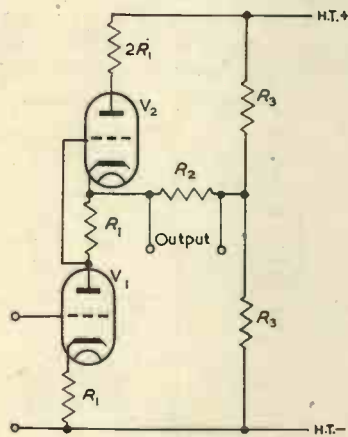

Fig. 21. Series balance circuit
Artzt51 has also described a series balance circuit, one form of which is shown in Fig. 21. Using equation (5) to represent valve performance, it is shown that compensation both for H.T. and L.T. variations may be obtained with similar valves with resistances as shown. The gain of the circuit is given as  $\mu R_2 / (R_a + 2R_2 + 2R_1)$  and when the load resistor  $R_2 = \infty$  the gain becomes  $\mu/2$ . In the latter case the gain is independent of  $R_a$ . Adjustment of the cathode load of  $V_2$  over a small range will enable the circuit to be balanced even though the two valves have slightly different heater voltage characteristics52.